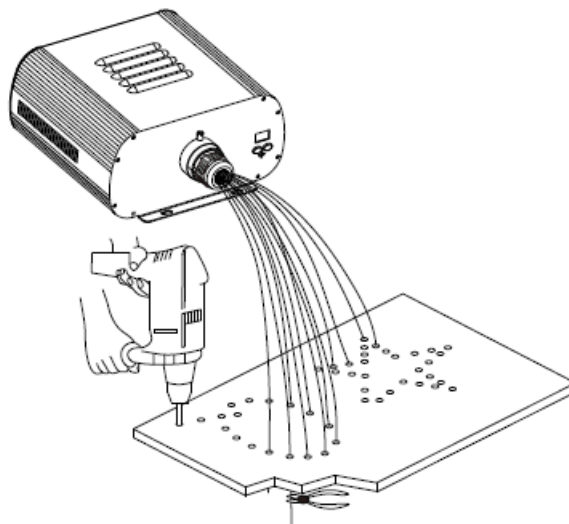

Fig. 2
3. The connection of OMX Signal Control Mode (See Fig. 2):
1. Drill holes on the installing board according to the design. Then insert the fiber optic string into holes and fix it with epoxy glue. Trim the end of the fiber string to be flush with the board or at a required length. Fasten the other end of the fiber string to a harness and insert the harness into the PG Connector and Fiber Connector. Apply the hot knife to cut the fiber end flush with the Fiber Connector. (See Fig.2).